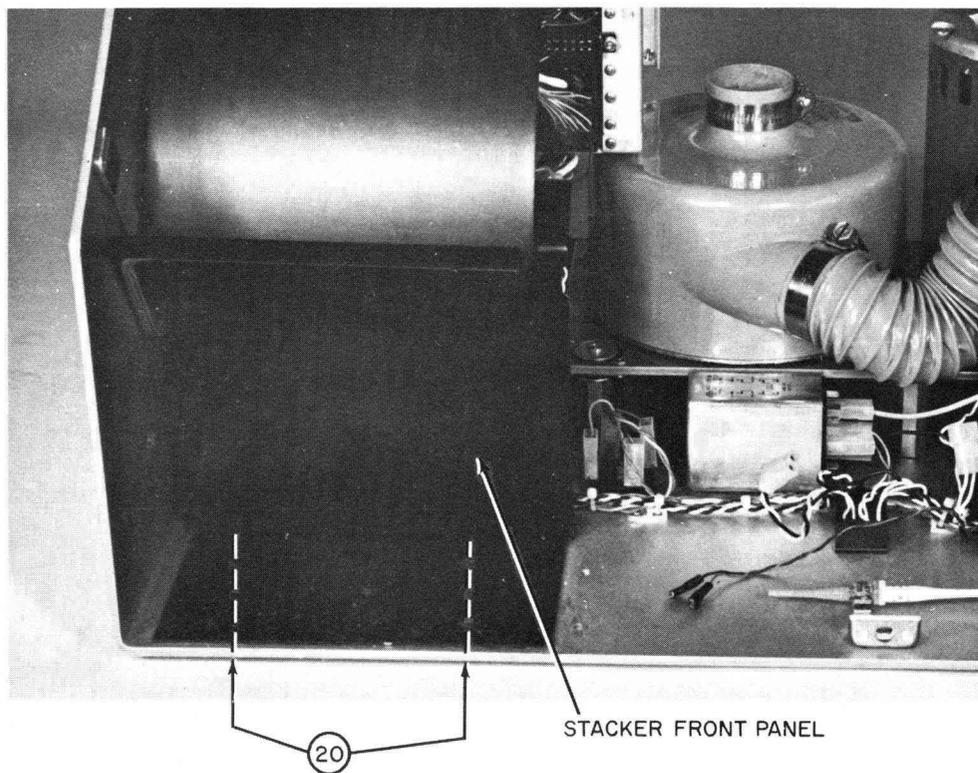

Figure 37. Stacker Panel Removal
2. Remove two 6 x 32 Phillips screws (20) from bottom of mainframe holding stacker front panel, figure 37.